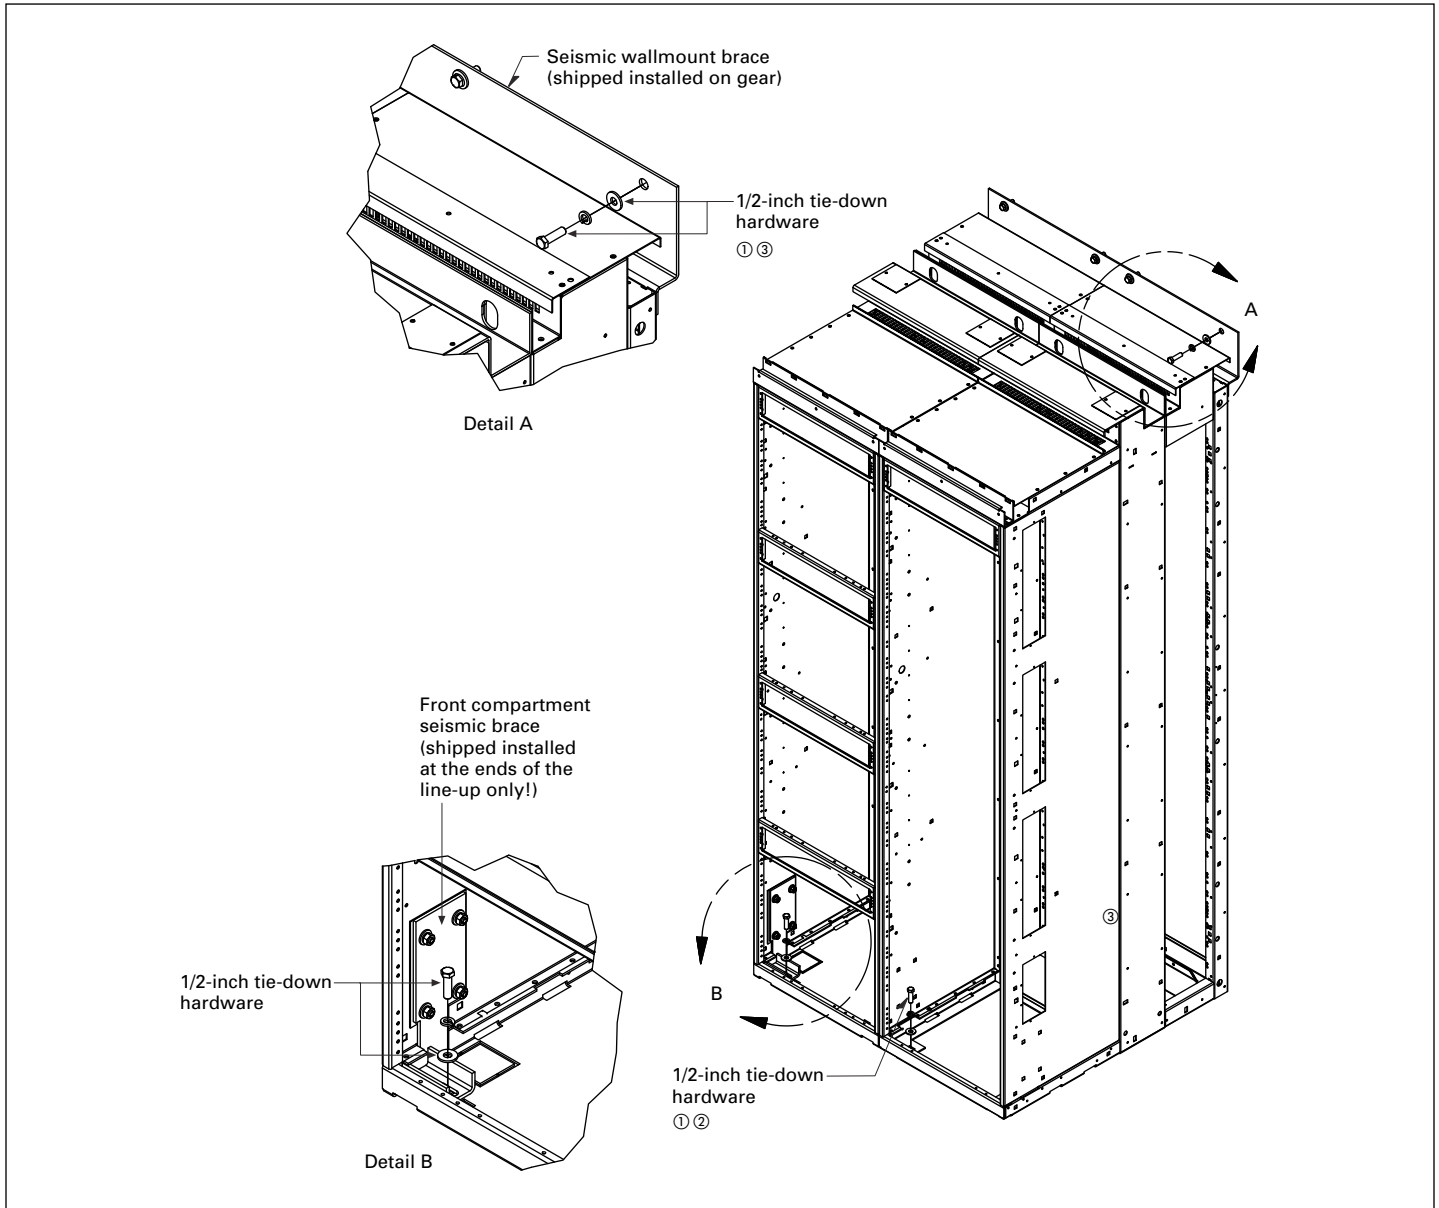

Figure 4. Magnum switchgear front-access rear frame seismic wall brace and front compartment seismic brace information
- Magnum DS Front-Access Switchgear is supplied with wall braces that must be used to anchor the rear of the switchgear to a wall (see **Figure 4**).
- ① Secure enclosure to pad and/or wall with Grade 5 hardware.
- ② Front compartment must be secured to pad for both rear frame wallmount and rear frame floormount applications (see Detail B on **Figure 4**).
- ③ A distance of 2.00 inches (50.8 mm), between the wall and the rear of the switchgear, is required to properly secure Front-Access Switchgear when using the rear wallmount brace.